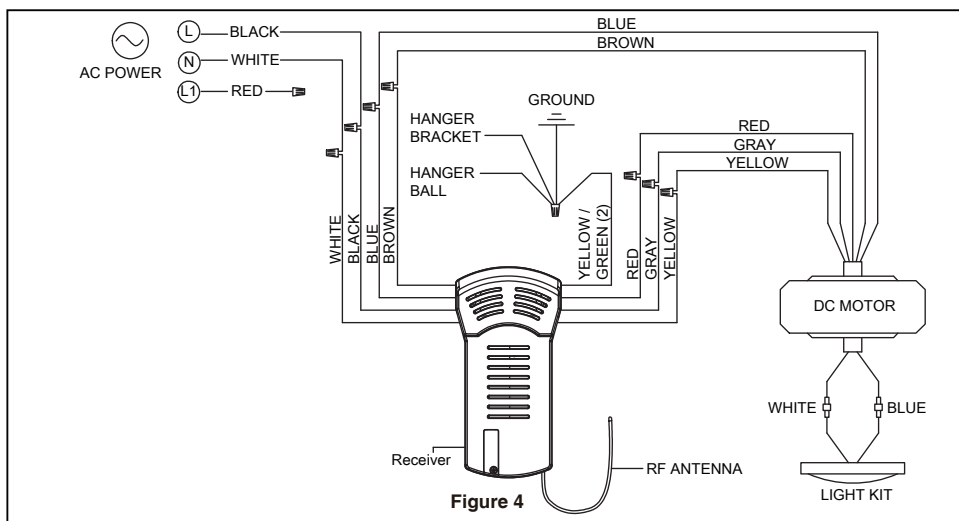

Figure 4
4. Thread downrod into the downrod support on top of the motor. Install the clevis pin by aligning the holes in the downrod support with holes in the downrod. Secure clevis pin with hairpin clip. Tighten the two set screws with nuts in the downrod support. (Figure 4)
2. Carefully lift the fan and seat the downrod/hanger ball assembly on the hanger bracket that was just attached to the outlet box. Be sure the groove in the ball is lined up with tab on the hanger bracket. (Figure 4)
3. Connect wires using connectors as shown in Figure 4.
- ☐ 4. Assemble the LED assembly to the light kit assembly using the screws removed in Step 3A. (Figure 4)
- ☐ 4. To make fan operational, install two 3V batteries (included) in hand-held remote transmitter, with fan power off. Then, follow the remote code setting process. If not used for long periods of time, remove battery to prevent damage to transmitter. Store the remote away from excessive heat or humidity. (Figure 4)